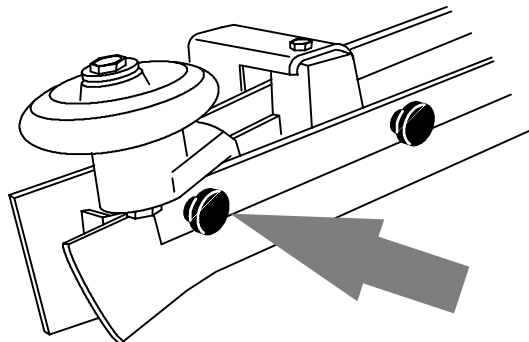

FIG. 68
2. To remove front squeegee blade, unthread six thumbscrews and remove retainer band and squeegee blade from squeegee frame (Figure 68).